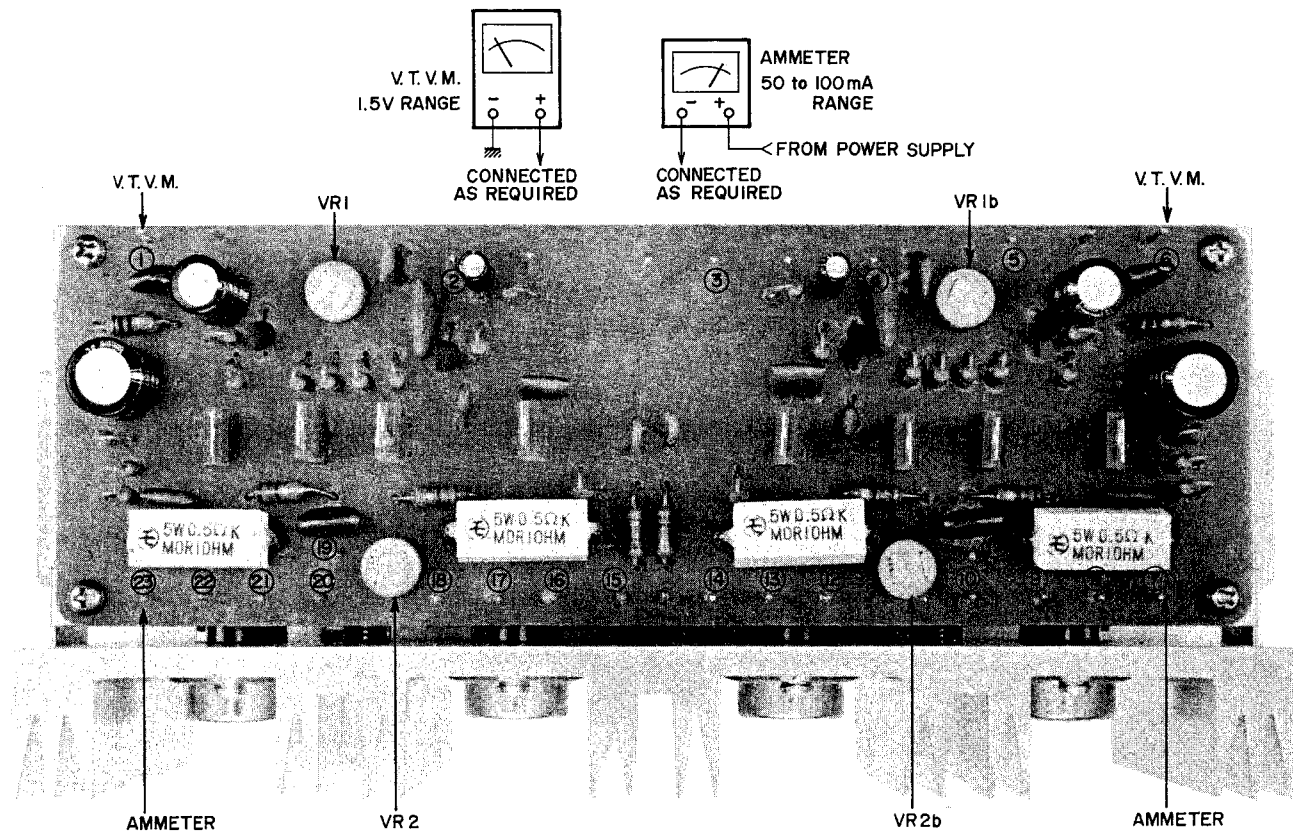

Fig. 23 POWER AMP. P.C. BOARD 94-5013
- 1) Disconnect the lead wires (Red) of terminals (7), (23) of Power Amp. P.C. Board from power supply.
- 3) Adjust Power Amp. P.C. Board semi-fixed resistors VR2 100B(Left), and VR2b 100B(Right) shown in Fig. 23 to obtain a 40 mA ampere meter indication on both left and right channels.
2. ZERO ELECTRICAL POTENTIAL ADJUSTMENT (Refer to Fig. 23)
- 1) Set V.T.V.M. to 1.5V D.C. range and connect between terminals (1), (6) of Power Amp. P.C. Board and ground.
- 2) Adjust semi-fixed resistors VR1 300B(Left) and VR1b 300B(Right) shown in Fig. 23 to obtain a "0" V V.T.V.M. indication.